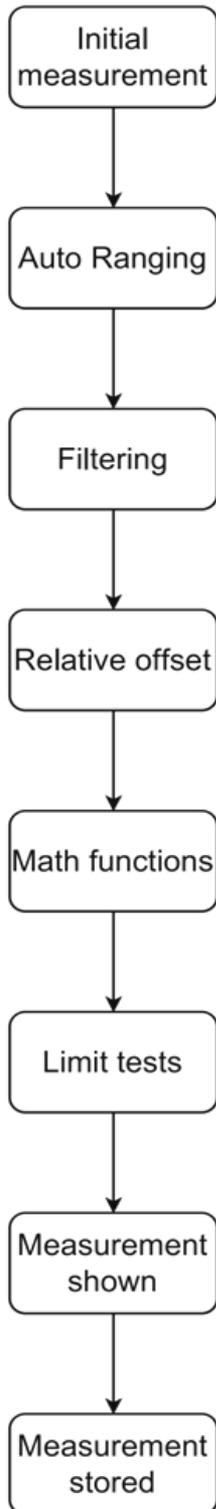

Figure 4-12 Channel Specific Setting Page 4 - Limit Test Status
**Description:** The deviation deduction setting is to deduct the deviation from the output value of the previous data processing step for voltage, current, resistance and power measurement results respectively (see Figure 4-12 for data processing steps) to obtain more accurate data.